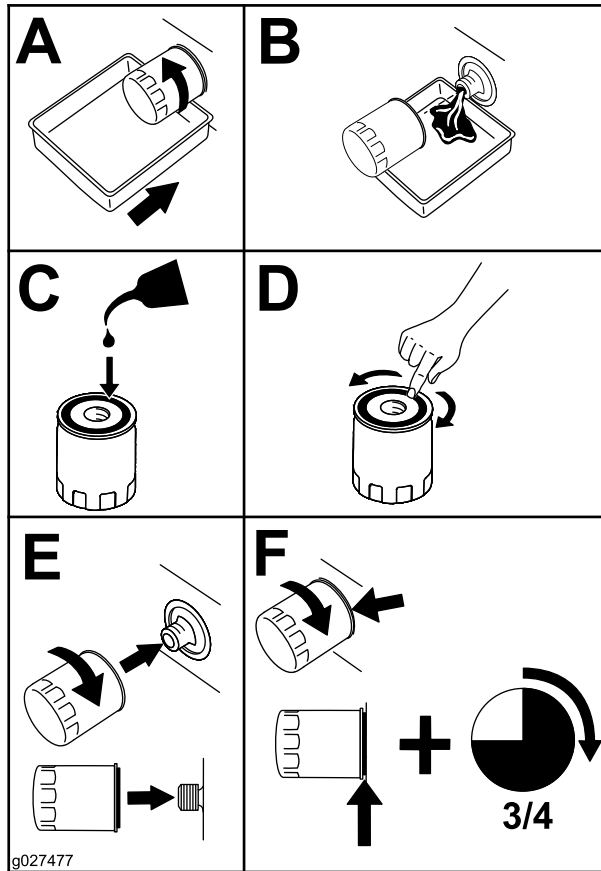

Figure 60
2. Change the engine-oil filter (Figure 60).